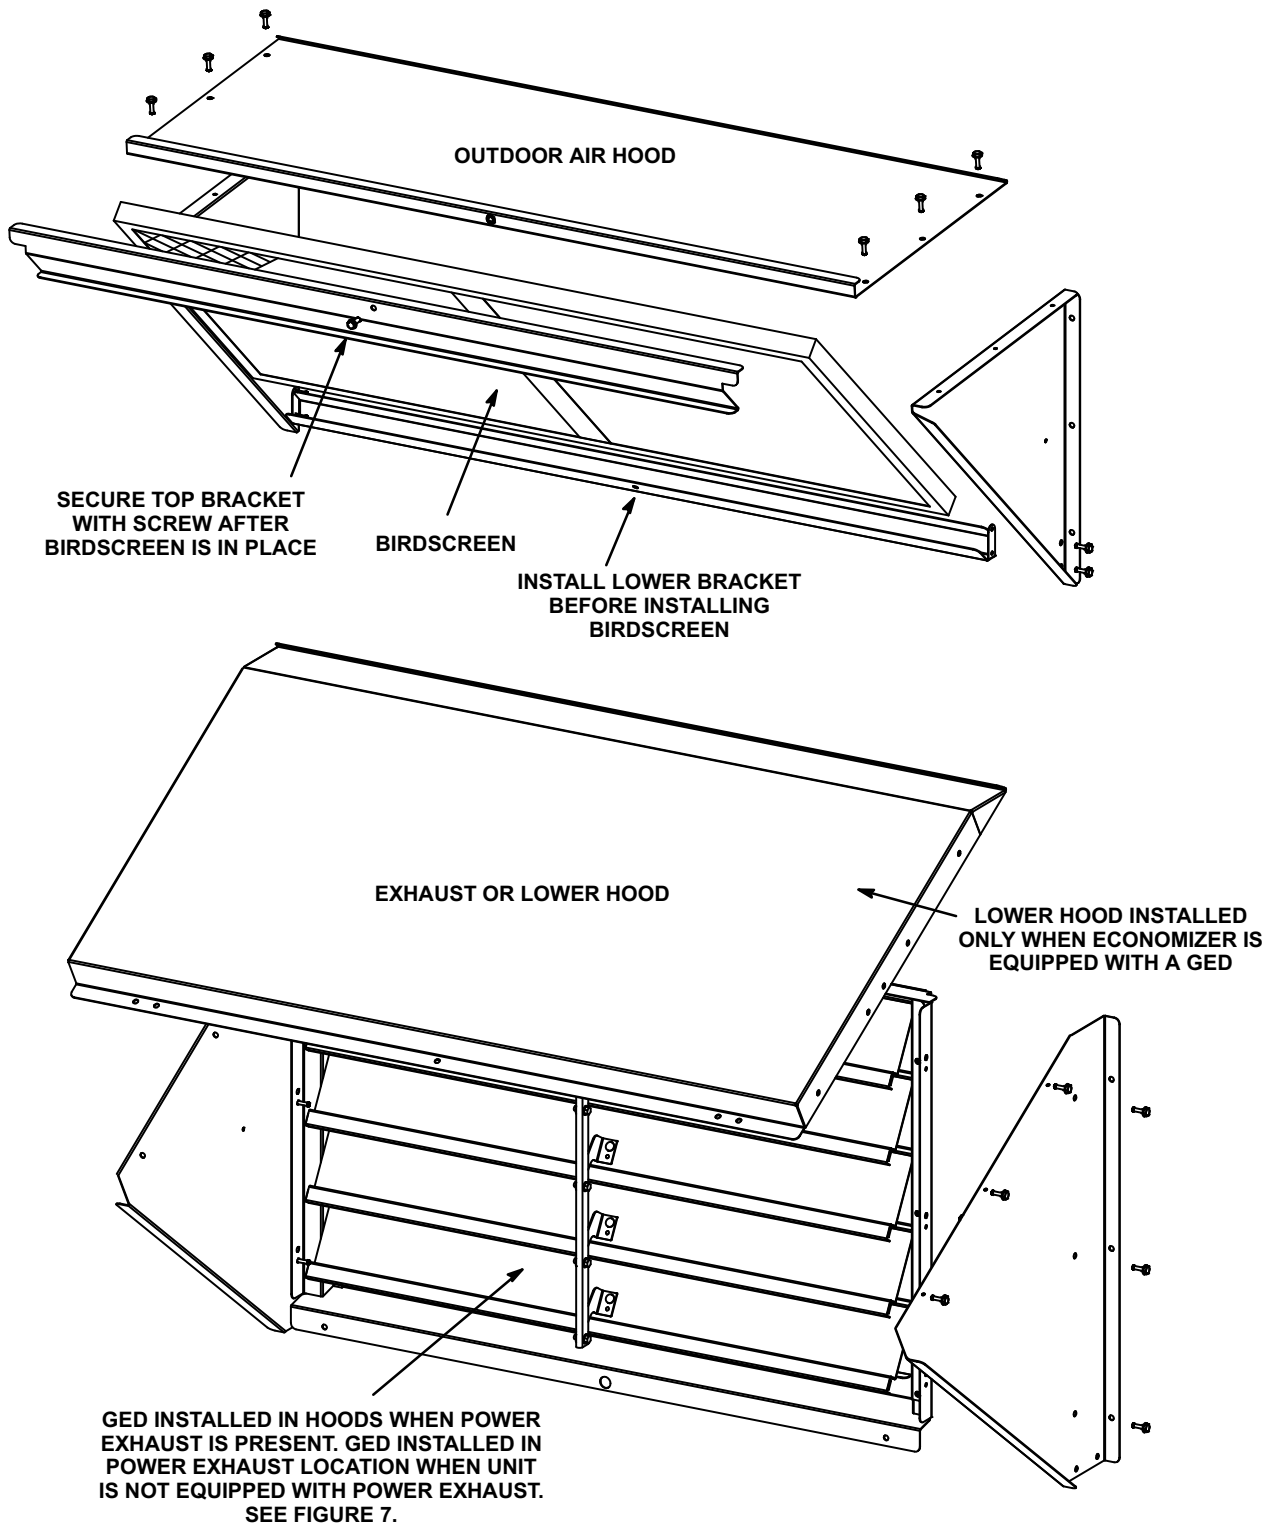

FIGURE 9
- 2- Install the GED in the exhaust or lower hood as shown in figure 9.
- 3- Assemble hoods as shown in figure 9. Slide top of hoods into the ends of pivot brackets. Install birdscreen bracket after birdscreens are in place.